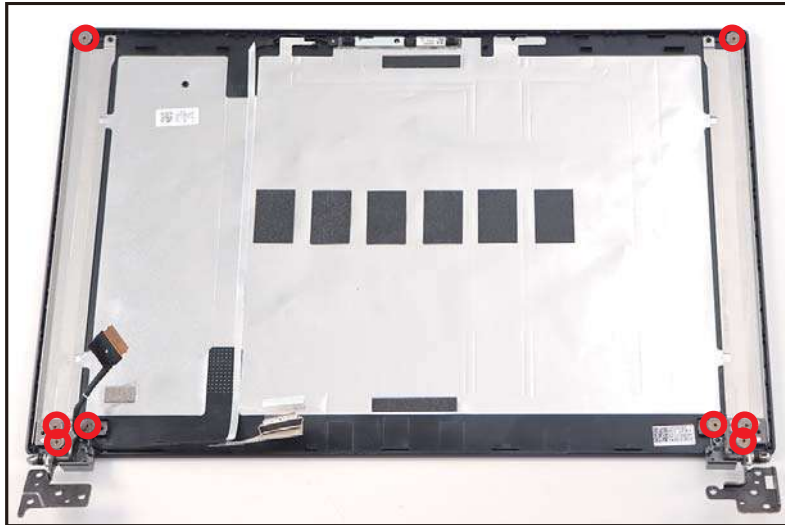

Figure 3-68. LCD Hinges Removal
1. Remove eight (8) screws securing the LCD hinges (Figure 3-68).